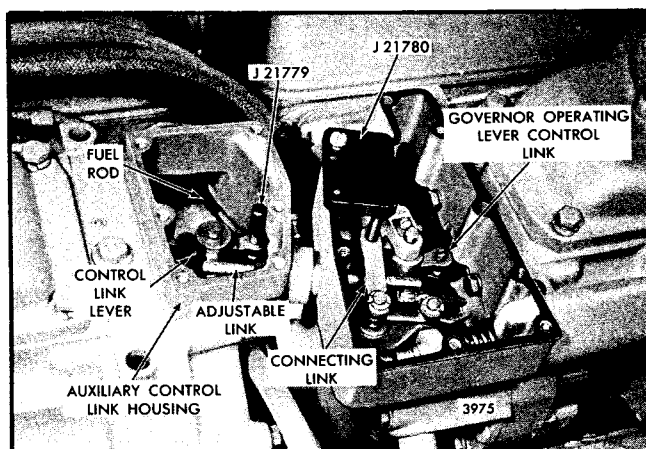

Fig. 2 - Control Link Levers in Position
If the engine or governor has been overhauled, or the injector control linkage has been disturbed, the control link levers in the governor housing and auxiliary control link housing must be aligned before proceeding with the engine tune-up. Refer to Fig. 2 and position the control link levers as follows:
6. Remove the connecting pin from the control link lever in the governor housing and install gage J 21780. Install the gage so the pin extends through the connecting link, control lever and fuel rod and the governor housing dowel pin extends into the small hole in the gage. Then install a governor cover bolt as shown in Fig. 2 to lock the gage in place. With gage